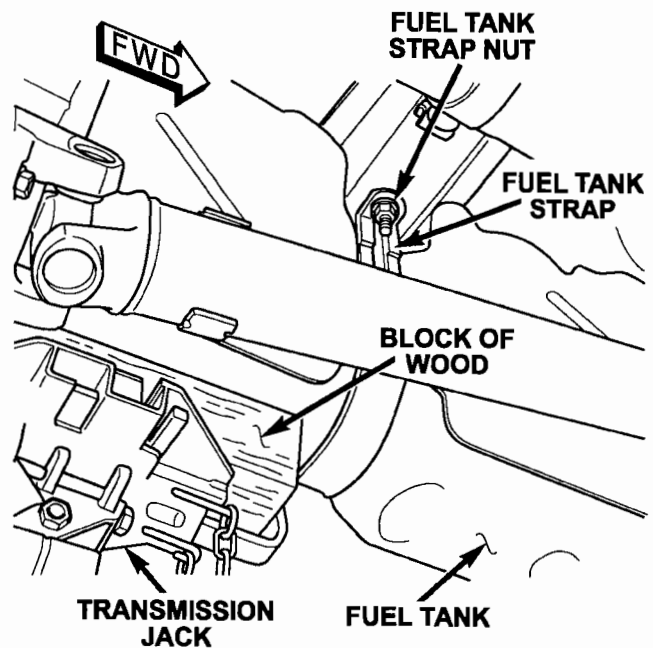

Figure 2 - View from Under Vehicle
11. Place a transmission jack under the back of the fuel tank to support the tank (Figure 2).